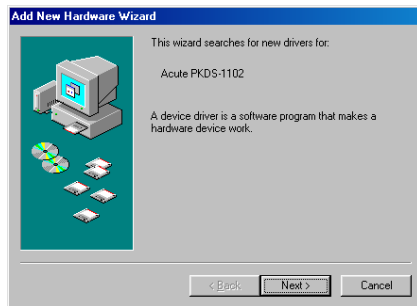

Figure 1
- (1) Insert the installation CD and please ignore the hardware wizard if you see it, then connect the DS-1000 with your PC.
- (2) The Windows OS will find an USB device and enter the hardware wizard (Figure 1).